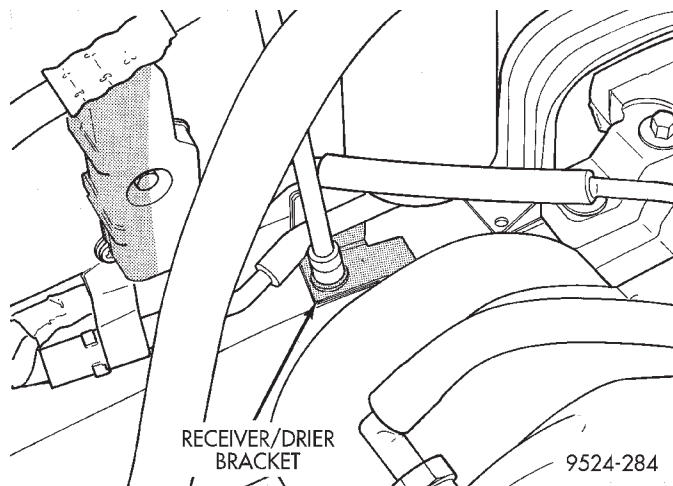

**Fig. 54 Receiver/Drier Bracket**
- (4) Remove filter/drier bracket bolt at base of filter/drier (Fig. 54).
- (5) Cap liquid line and condenser threaded fitting while system is open to prevent moisture from entering system.